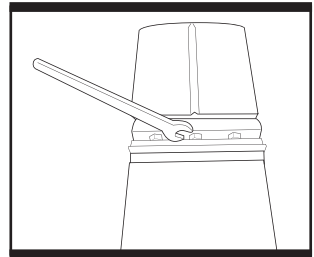
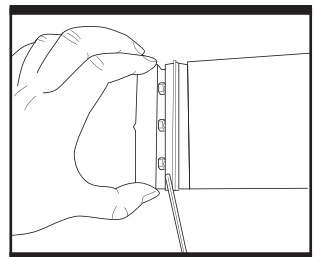

Fig. 7
Fig. 8
6. BLADE REPLACEMENT (Fig. 7 & Fig. 8)